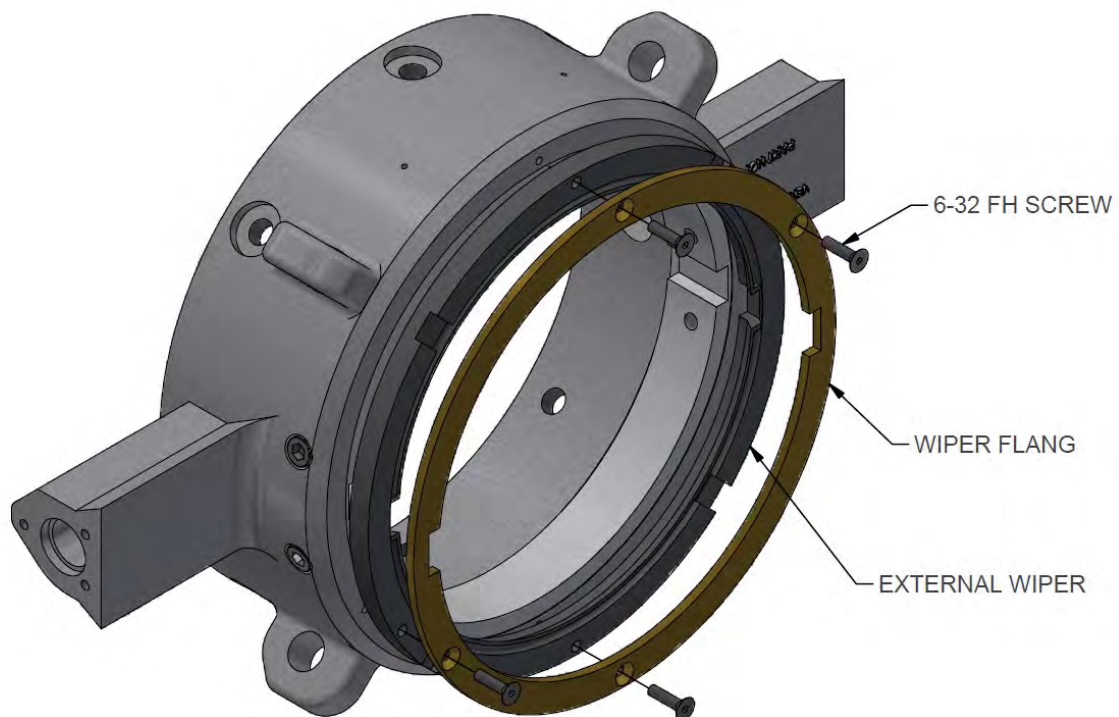

Figure 8-4 Replacing External Wipers
4. Ensure the wiper bumper fits snug around the adjacent after the collar is re-installed onto the mast (Figure 8-4).